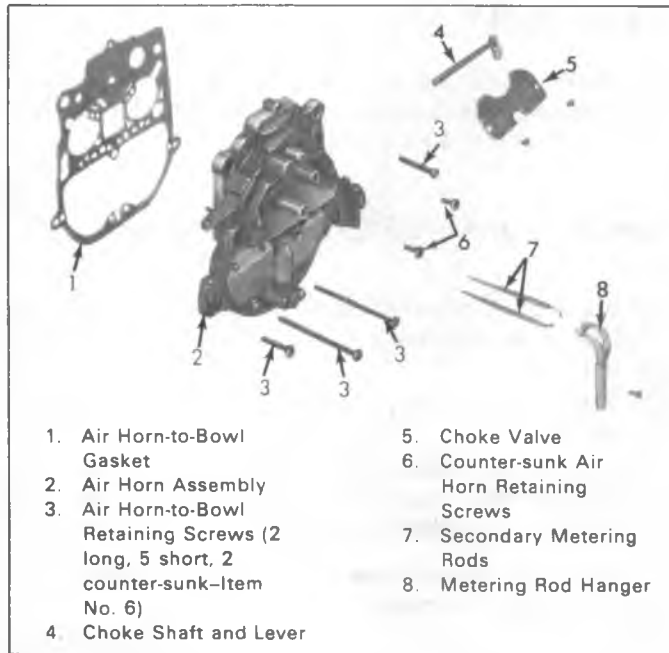

Fig. Q2-Air Horn Exploded View
### Air Horn Disassembly (Figure Q2)
1. Remove choke valve attaching screws, then remove choke valve and shaft (Figure Q2).